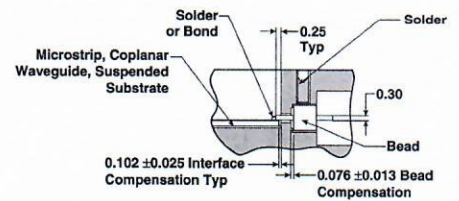

Figure 3. Glass Bead Installation
- Install the microstrip into the housing. Refer to Figure 3 for dimensional tolerances around the glass bead.